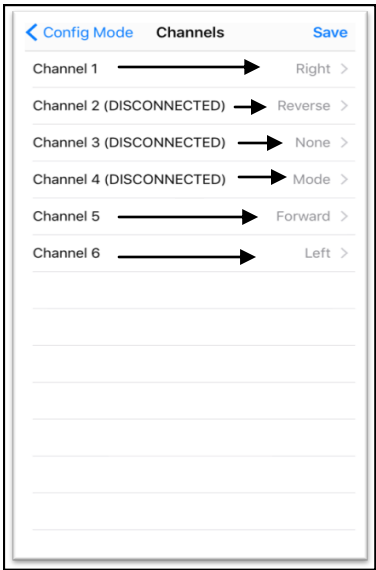

Figure 6
- 4. After channel assignments have been made, in the *Channels* tab, all of the selections will appear to the right of the channel they have been assigned to (Figure 6). If the channels are to the correct assignments, select *Save* in the top right hand corner.